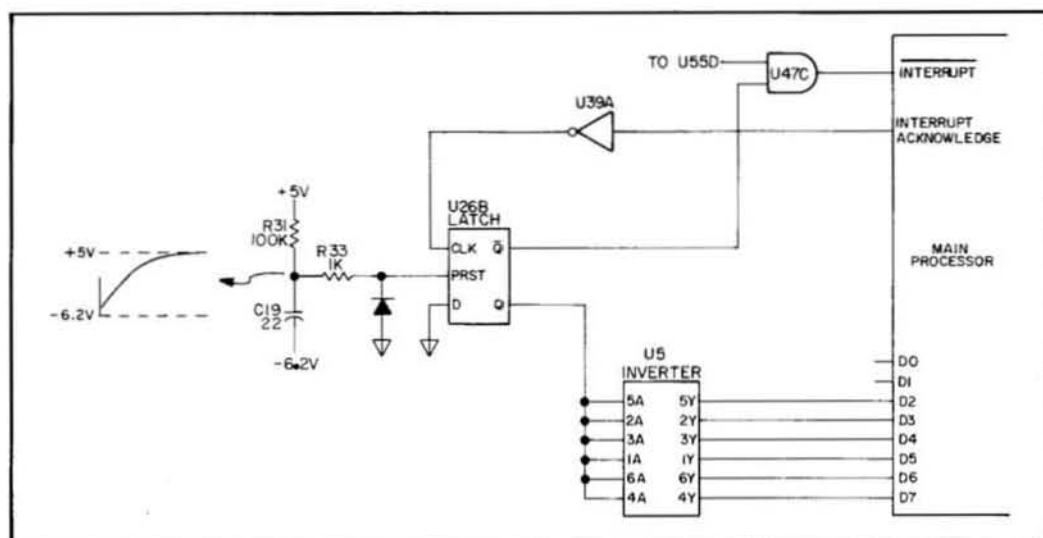

Figure 8-42. Simplified Turn-on Interrupt Circuit.
**8-139. Turn-On Interrupt.** The purpose of the "turn-on" interrupt is to start the main processor at a known program address when power is initially applied to the voltmeter. Figure 8-42 shows a simplified schematic of the turn-on interrupt circuit. At turn-on, a negative-going pulse is applied to the "preset" input of latch U26B from the RC network composed of R31 and C19. This sets the "Q" output high and the "Q-bar" output low. The Q-bar output is applied to U47C which sets the interrupt input to the processor. The Q output is applied through inverter U5 to the processor data bus (D2 through D7) to set the starting address.